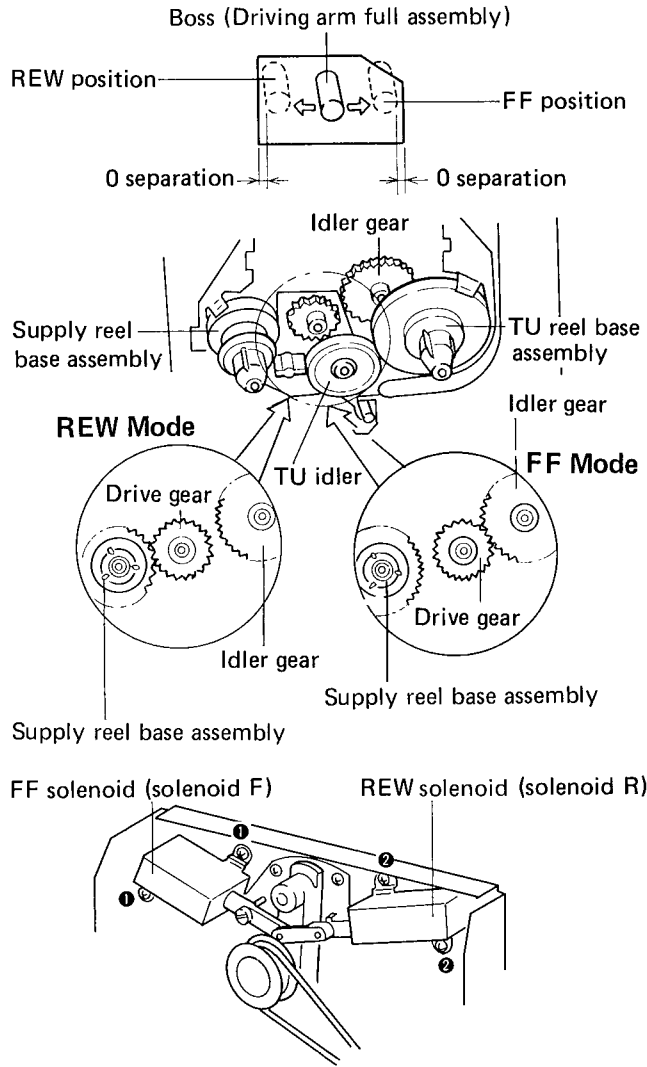

Fig. 7-4 FF (REW) solenoid adjustment
- Loosen screws ❶ and adjust the FF solenoid mounting position so that the square hole of the reel base full assembly is flush against the boss of the driving arm full assembly (i.e. 0 separation) as shown in Fig. 7-4.
- Loosen screws ❷ and adjust the REW solenoid mounting position so that the square hole of the reel base full assembly is flush against the boss of the driving arm full assembly (i.e. 0 separation) as shown in Fig. 7-4.